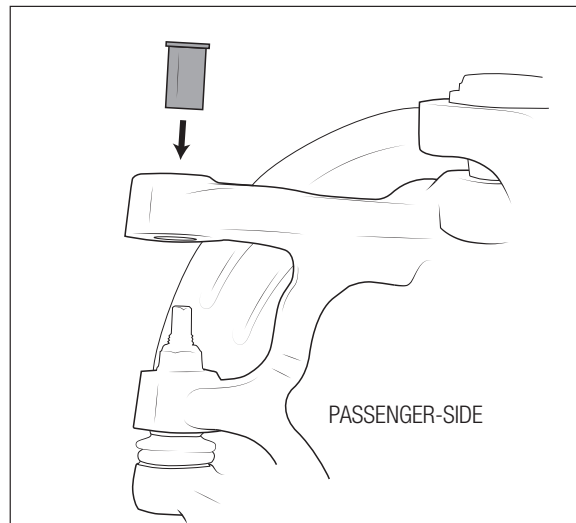

Figure 33
20. Machine Factory Knuckle to 7/8" Insert tapered bushing into drilled hole (fig. 33).